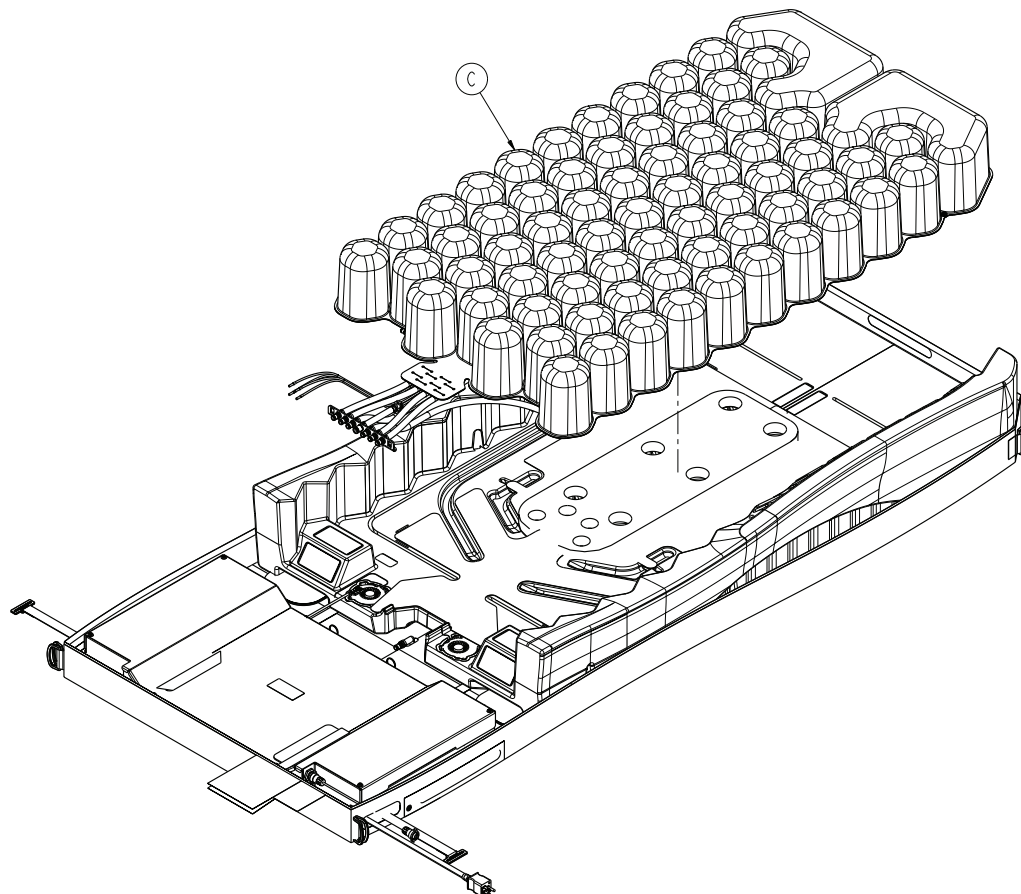

Figure 1-15: Pod assembly
10. Reach under the pod assembly (C) from the patient's right side near the middle to access the turn bladder and disconnect the turn bladder quick disconnect. Repeat on the patient left side (Figure 1-15 on page 1-39).
11. Separate the Velcro® from the head end of the pod assembly (C) and feed the turn bladder hose quick connection through the foam crib.
12. Remove and discard the pod assembly (C)(Figure 1-15 on page 1-39).